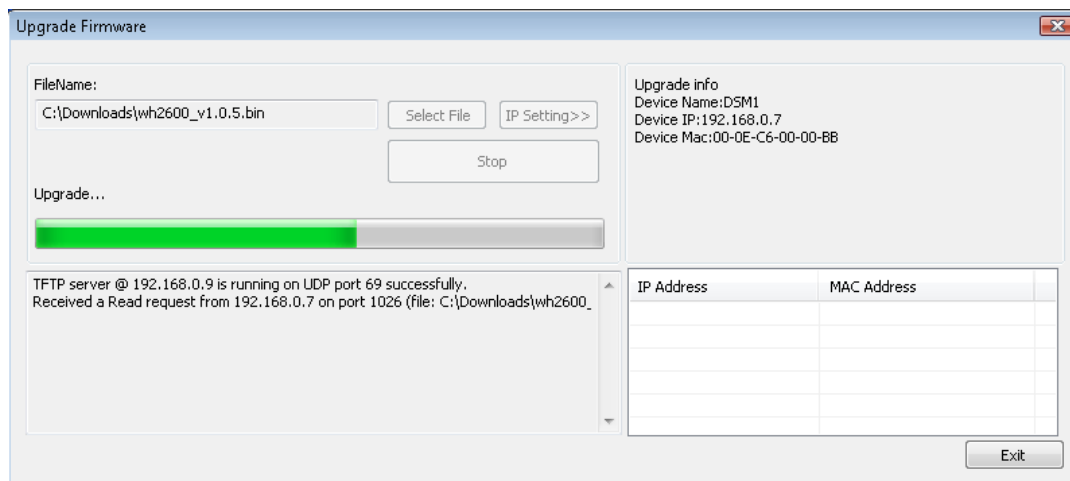

Figure 40
5. Select the Upgrade **Firmware** button. Reference Figure 40. The dialog box will display **Received a Read Request** from the ObserverIP module. A green progress bar will provide you with the upgrade status.